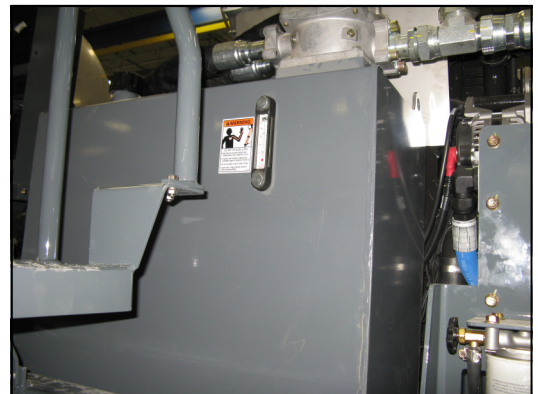

FIG 85-2
**OIL LEVEL**— Check the sight gauge level on the hydraulic oil reservoir (fig. 85-2) daily. Add just enough fluid so the level is in the center of the sight gauge. Always check the hydraulic oil level when it is cool. Hydraulic oil will expand when heated.